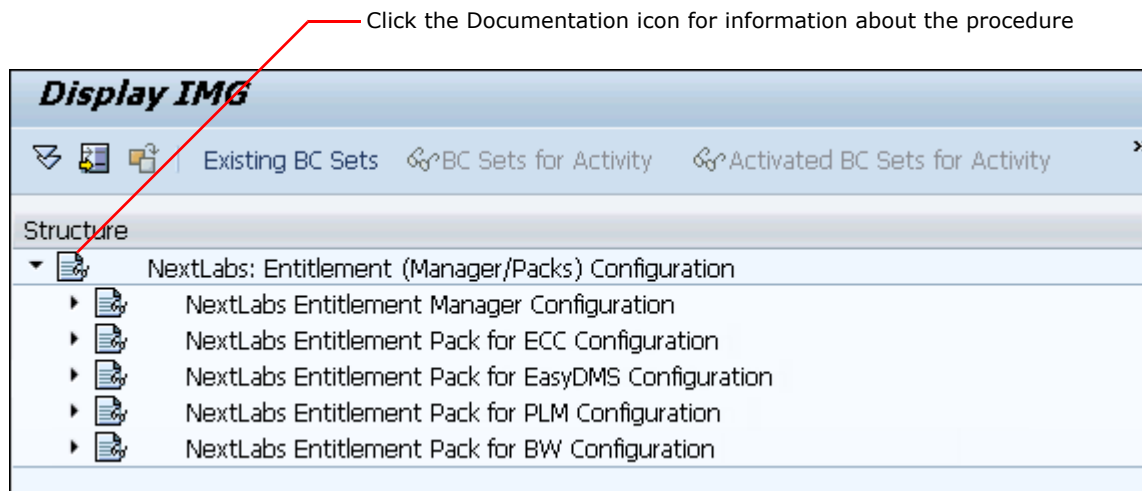

Figure 4-6: Using `/NEXTLABS/CONFIG` to access the configuration tool
- Enter transaction `/NEXTLABS/CONFIG`. This transaction shows the installed NextLabs components only, as shown in Figure 4-6.